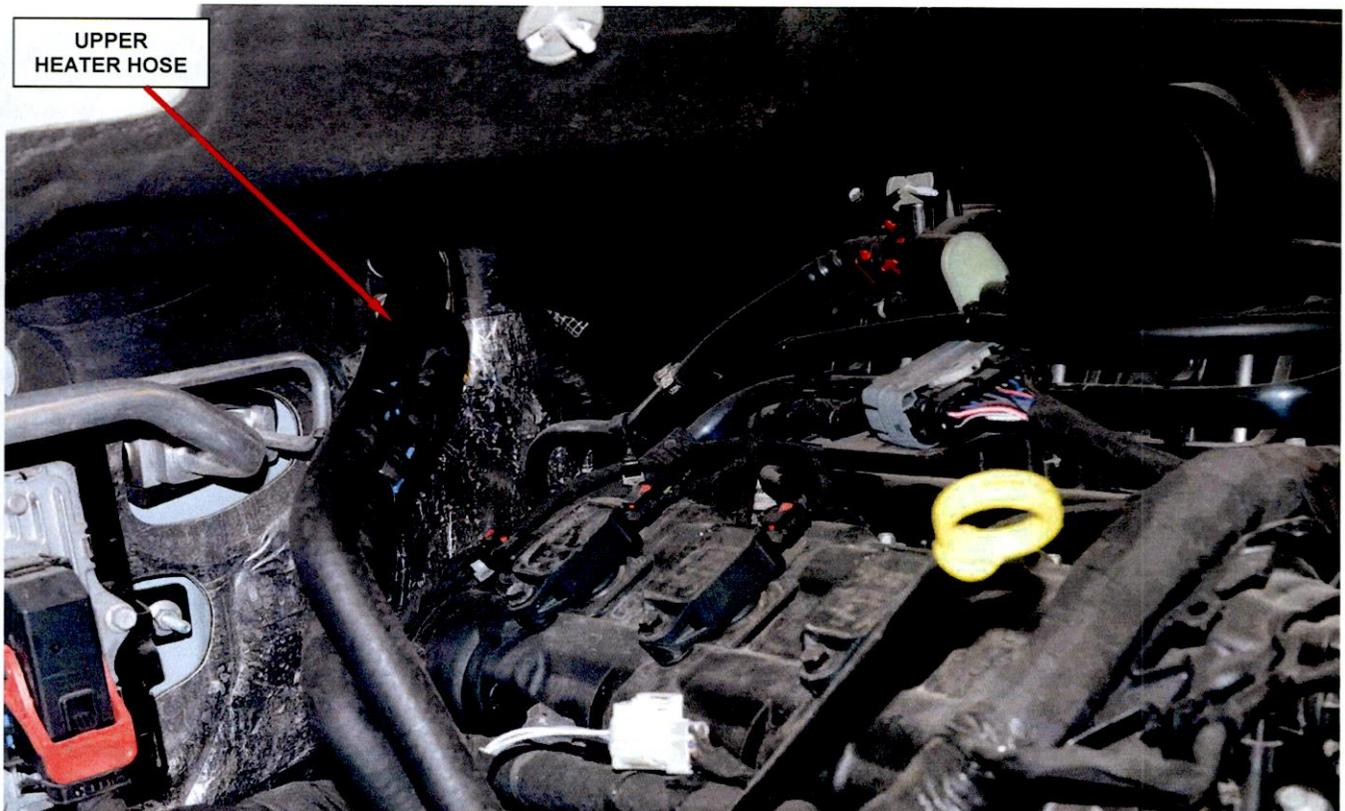

Figure 7 – Disconnect the Upper Heater Hose at the Dash Panel
- c. Disconnect the upper heater hose at the heater core tube (Figure 7).